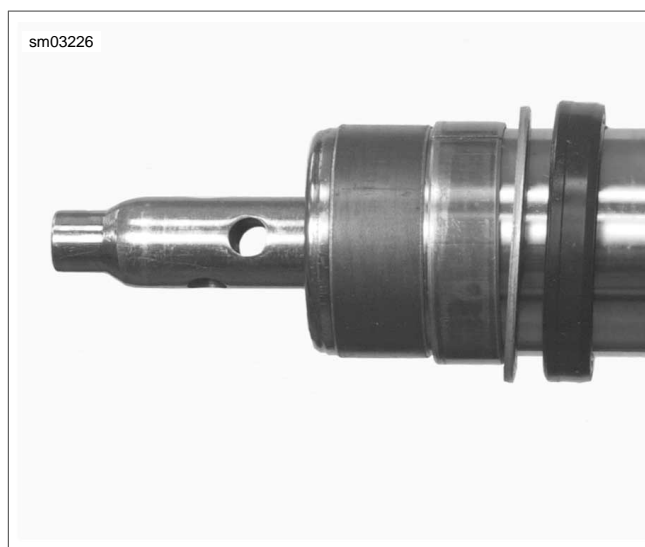

Figure 2-86. Seat Pipe Centered in Fork Tube
2. Slide bushing guide (14) down to bushing (24) on fork tube (1). Follow with spacer (13), oil seal (12), retaining ring (11), dust shield (10) and slider cover (9).
4. Fit lower stop (15) onto seat pipe.
5. See Figure 2-86. Side seat pipe back into fork tube until seat pipe is centered in tube.